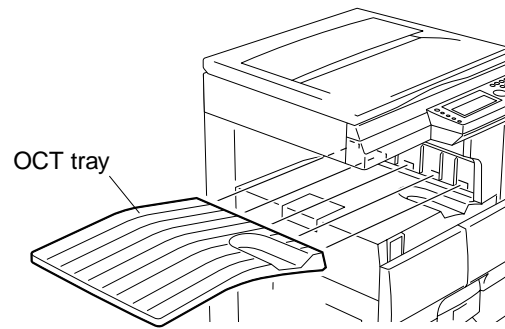

Fig. 6-1
1. Remove OCT tray. (See Fig. 6-1)
1. Remove OCT. (See Fig. 6-1 to 6-5)